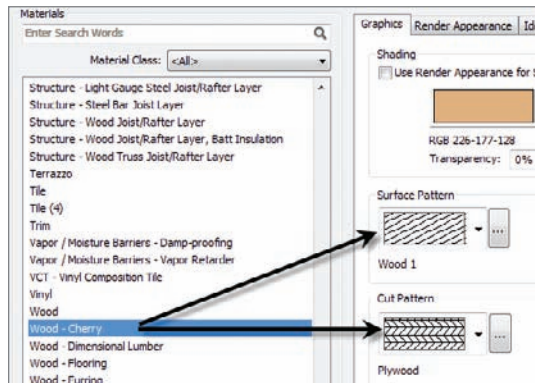

FIGURE 9.20 Selecting and configuring the material for the ceiling
14. Give it a Cut Pattern setting of Plywood, as shown in Figure 9.20.